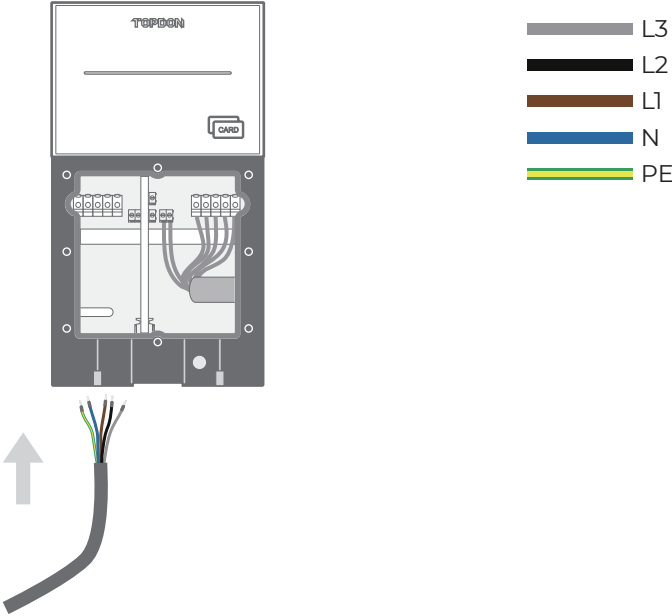

Fig. 5-15
6. Pass the crimped power cable through the hole. (See Fig. 5-15)